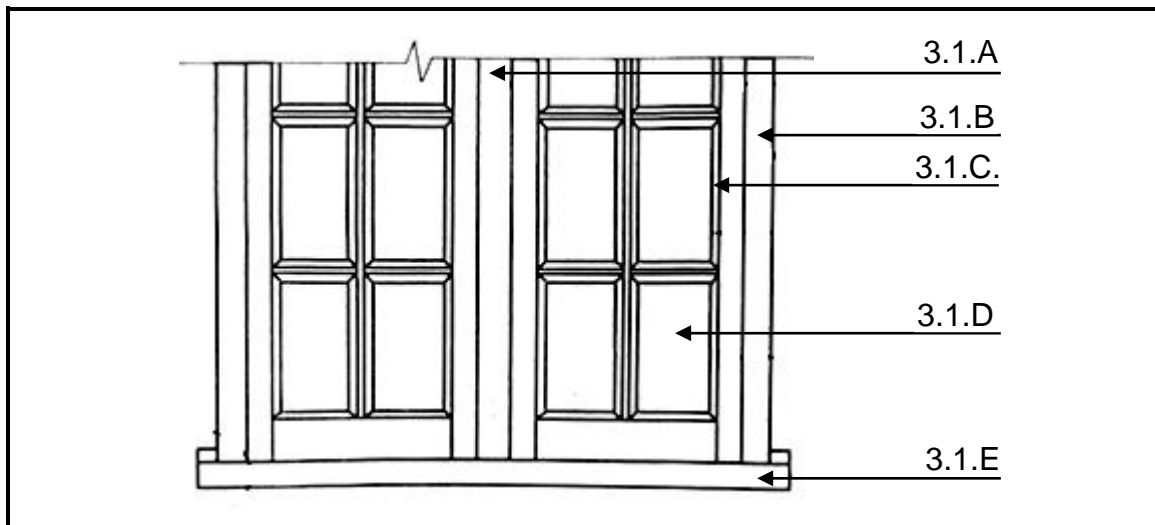

FIGURE 3.1
3.1 Answer the following questions with regard to the window frame in FIGURE 3.1.